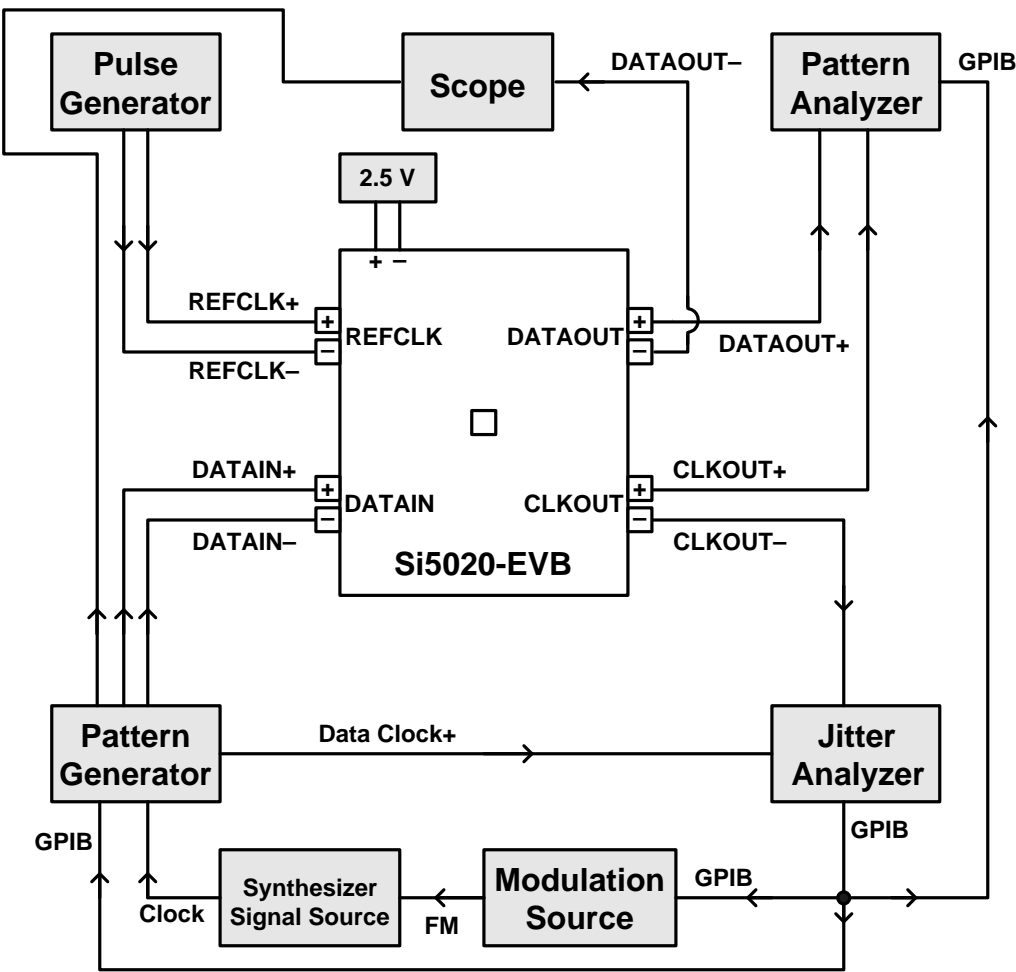

Figure 2. Test Configuration for Jitter Tolerance, Transfer, and Generation
The three critical tests that are typically performed on a CDR device are jitter transfer, jitter tolerance, and jitter generation. By connecting the Si5020 Evaluation Board as shown in Figure 2, all three measurements can be easily made.
**Jitter Tolerance:** Referring to Figure 2, this test requires a pattern generator, a clock source (synthesizer signal source), a modulation source, a jitter analyzer, a pattern analyzer, and a pulse generator (all unconnected high-speed outputs must be terminated to  $50 \Omega$ ). During this test the Jitter Analyzer causes a modulation on the data pattern which drives the DATAIN ports of the CDR. The Bit-Error-Rate (BER) is monitored on the Pattern Analyzer. The modulation (jitter) frequency and amplitude is recorded when the BER approaches a specified threshold.
**Jitter Generation:** Referring to Figure 2, this test requires a pattern generator, a clock source (synthesizer signal source), a jitter analyzer, and a pulse generator (all unconnected high-speed outputs must be terminated to  $50 \Omega$ ). During this test, there is no modulation of the Data Clock, so the data that is sent to the CDR is jitter free. The Jitter Analyzer measures the RMS and peak-to-peak jitter on the CDR CLKOUT. Thus, any jitter measured is jitter generated by the CDR.
**Jitter Transfer:** Referring to Figure 2, this test requires a pattern generator, a clock source (synthesizer signal source), a modulation source, a jitter analyzer, and a pulse generator (all unconnected high-speed outputs must be terminated to  $50 \Omega$ ). During this test the Jitter Analyzer modulates the data pattern and data clock reference. The modulated data clock reference is compared with the CLKOUT of the CDR. Jitter on CLKOUT relative to the jitter on the data clock reference is plotted versus modulation frequency at predefined jitter amplitudes.